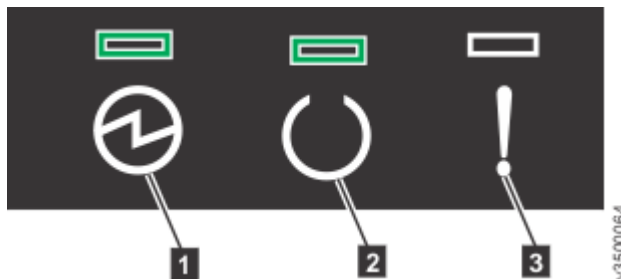

Figure 40. Expansion enclosure LEDs
2. From the rear of the rack, check the LEDs on each expansion enclosure (see Figure 40 on page 69).